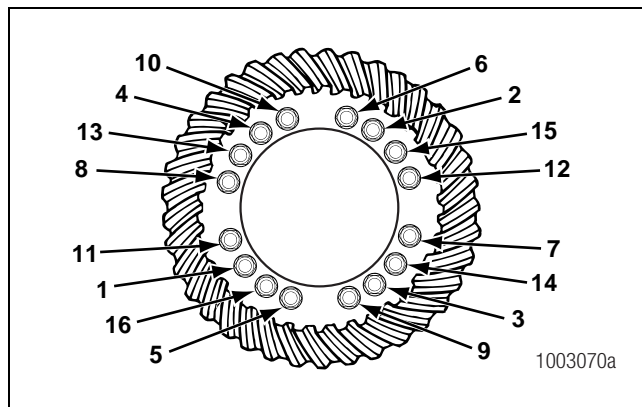

Figure 5.42
- A. Install four capscrews and washers or bolts, nuts and washers, if equipped, into the case halves. The distance between the fasteners must be equal. Tighten the fasteners to the correct torque value in a progressive crisscross pattern opposite each other. Refer to Section 8. Figure 5.42.